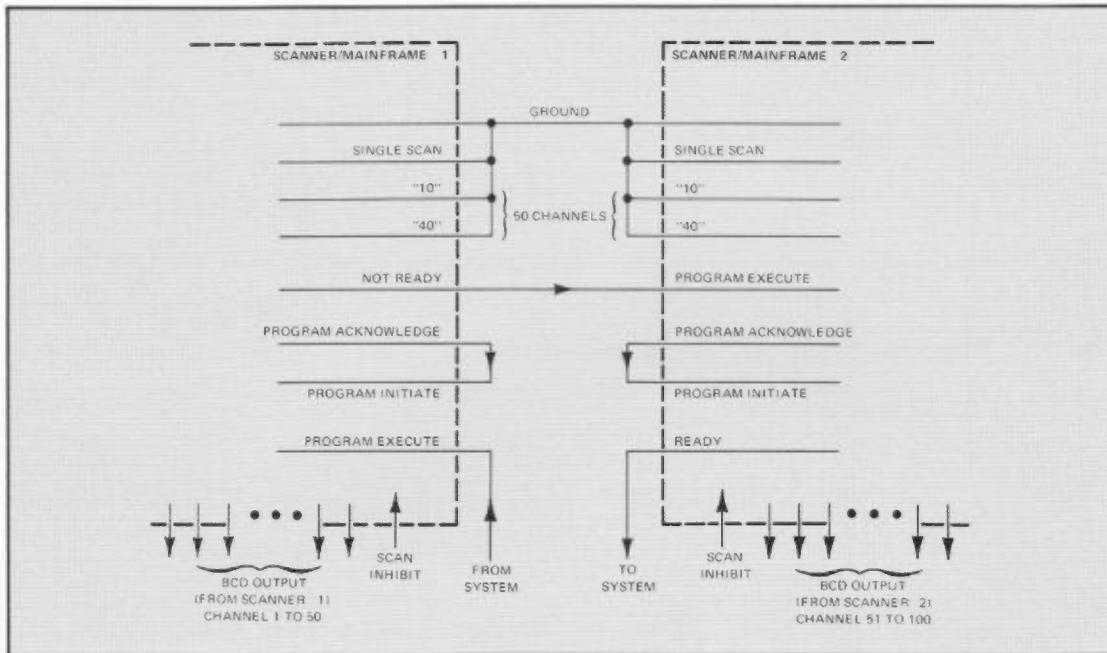

FIGURE 12
- Some users will need to scan more than 50 channels (the capacity of 3480/3485A combination). This may be done by cascading units together as shown in Figure 12.
Timing for cascading two scanners to scan 100 channels (see Figure 12 for interconnections).